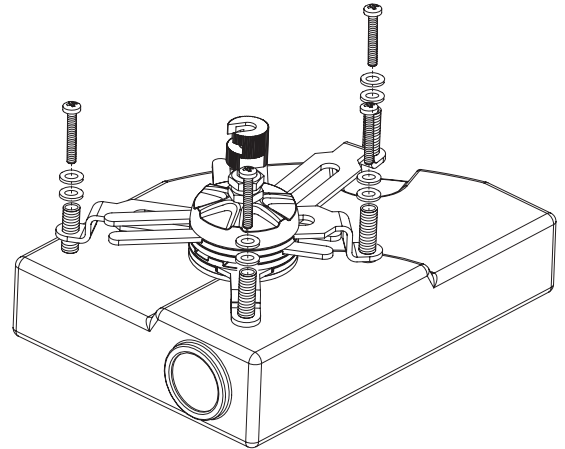

Figure 3
- ③ Use mounting plate to mark ceiling, then attach plate to ceiling. For ceiling plate dimensions, see diagrams on page 2.
- ④ Install Aero Universal Projector Bracket on projector if applicable (see separate instructions; also Fig. 3). Then, attach bracket and projector to Aero column (see Fig. 4).